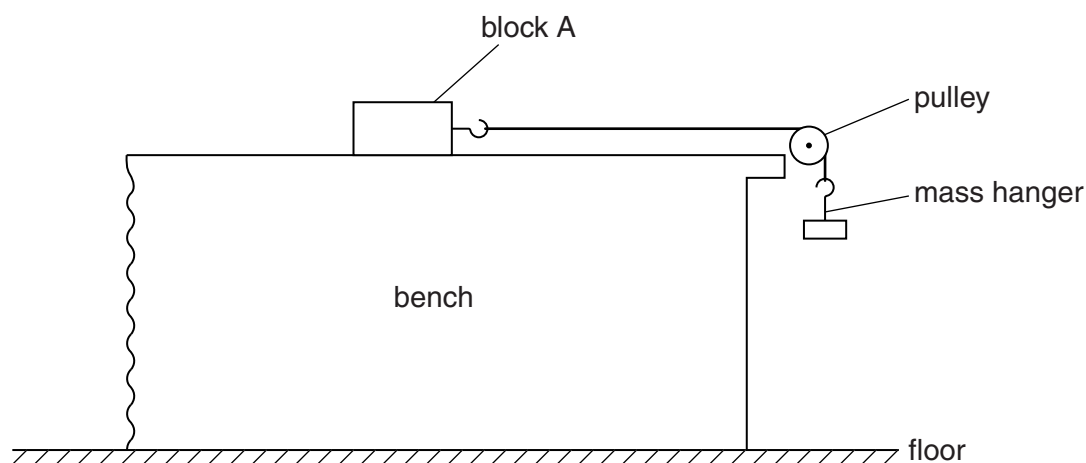

Fig. 3.1
4. One end of the thin string should be tied to the hook and the other end should be tied to the mass hanger. The length of the string between these two points should be approximately 5 cm greater than the height of the bench. The apparatus should then be assembled as shown in Fig. 3.1.
5. At the changeover, the Supervisor should remove any masses from the mass hanger and should ensure that the apparatus is still set up as shown in Fig. 3.1.